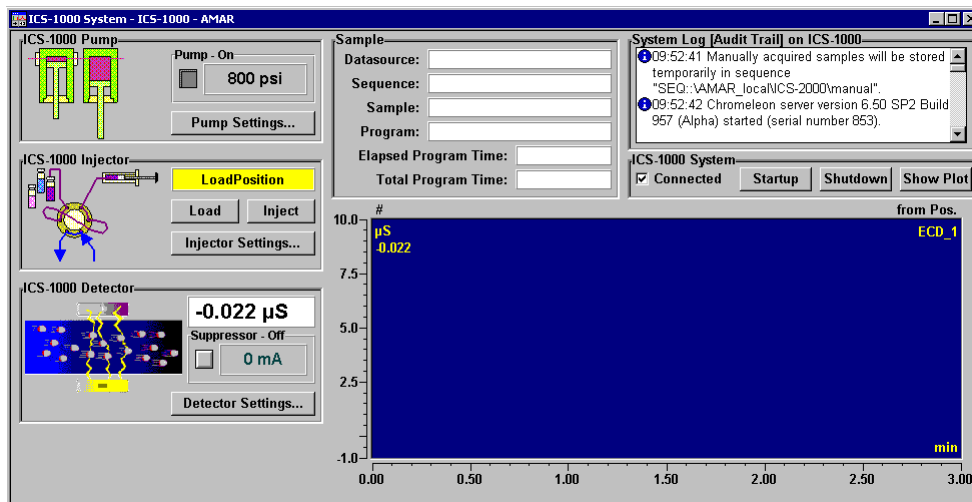

Figure 2-9. ICS-1000 System Control Panel (Graphical)
- System panels (see Figure 2-9) provide a more graphical interface than the traditional style. On these panels, clicking a control often brings up another window in which you enter a value.